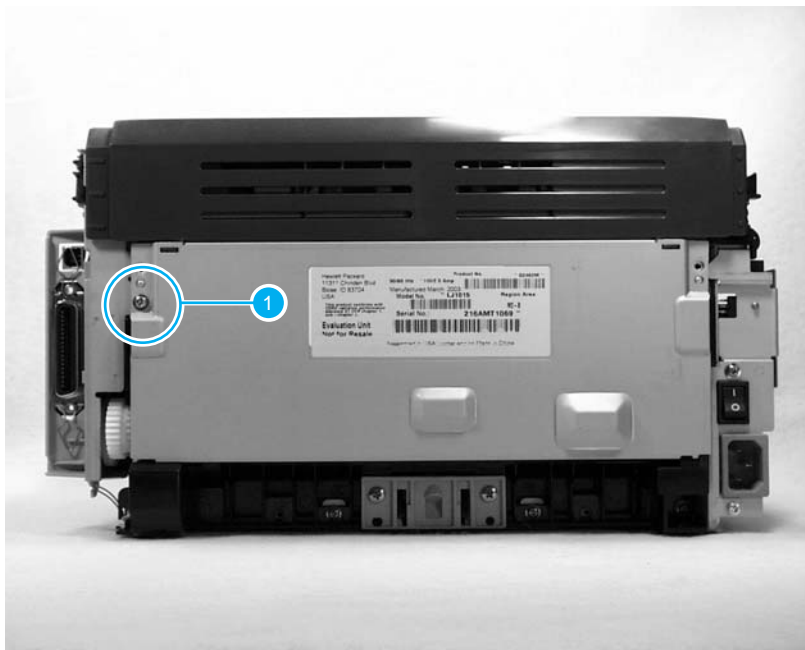

Figure 5-12.
6. Remove one screw (callout 1, figure 5-12) from the back of the product.